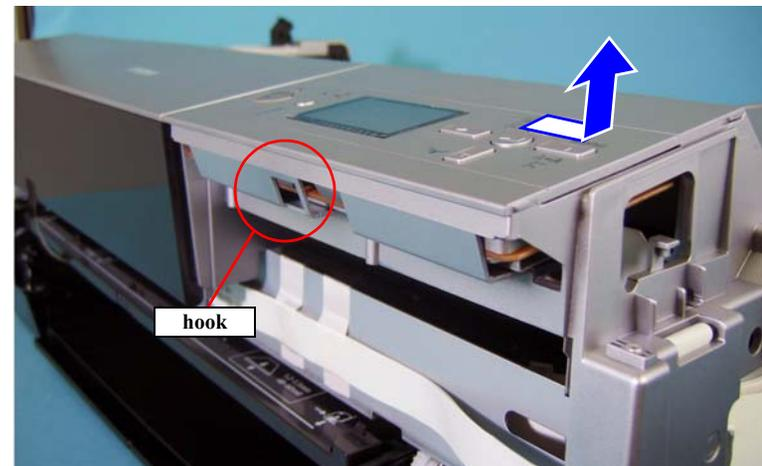

Figure 4-18. Removing the OPERATION, PANEL, ASSY. (2)
6. Release the hook that secures the OPERATION, PANEL, ASSY. and remove it. See Figure 4-18.